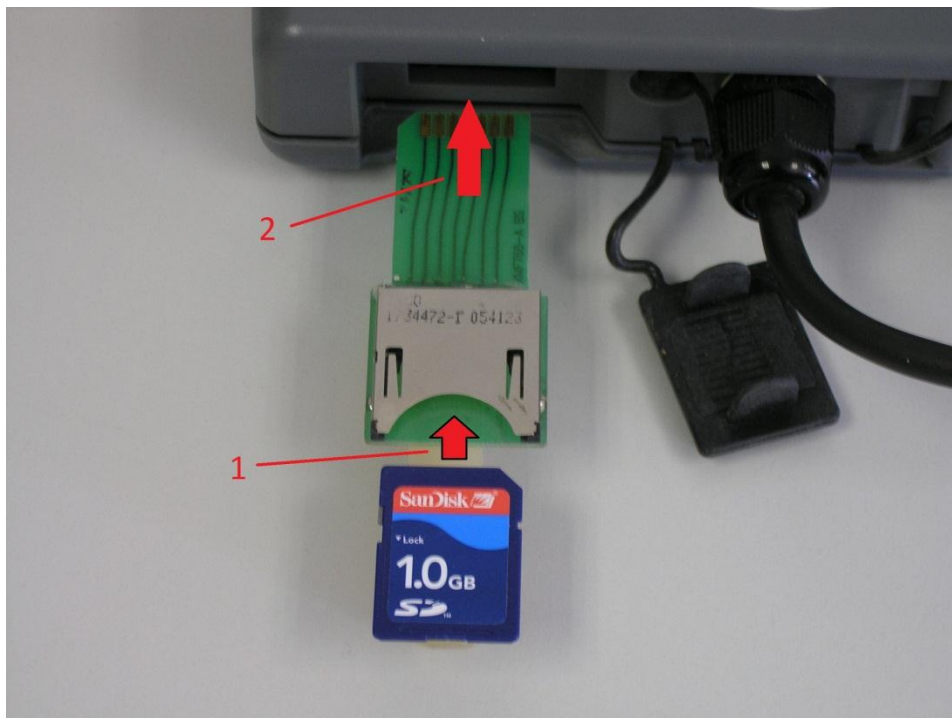

figure2: Connecting storage cards to old sc1000 controllers.
Note (2): Old sc1000 controllers with serial numbers less than 1217178 need an extra MMC Adapter (part no. YAB 902) for connecting storage cards – this applies for all types of cards (MMC, SD, and SDHC). See figure2.
- When an MMC adapter is used (figure2), first insert the card to the adapter, and then insert the adapter into the card slot of the Display Module. Avoid touching the card, while the adapter is inserted.